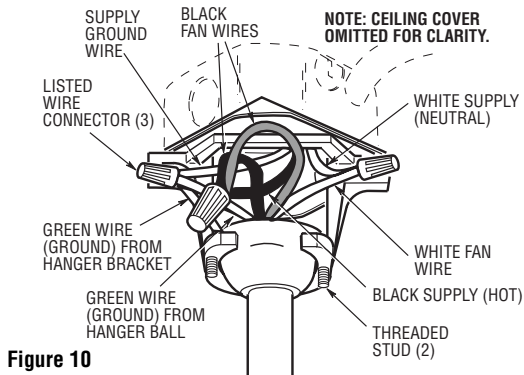
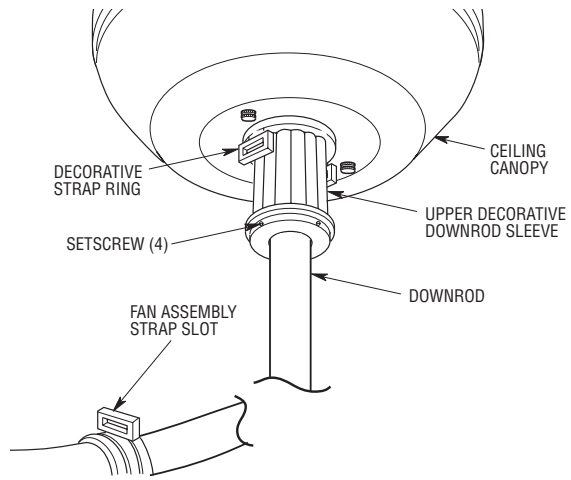

Figure 10
Figure 15
1. Connect the green grounding lead from the hanger ball and the green grounding lead from the hanger bracket to the grounding conductor of supply (this may be a bare wire or wire with green colored insulation). Securely connect wires with wire connectors supplied. (Figure 10.)
2. Securely connect the fan motor white wire to the supply white (neutral) wire using wire connector supplied (Figure 10). Securely connect the fan motor black wire to the supply black (hot) wire using wire connector supplied (Figure 15). The blue wire is for optional light kit accessory. Do not connect the blue wire to the supply black wire. Cap the blue wire with a wire connector supplied. After connections have been made, turn leads upward and carefully push leads into the outlet box, with the white and green leads on one side of the outlet box and the black and blue leads on the other side of the outlet box.
- 1. Loosen the setscrew on the upper decorative downrod sleeve and gently slide it up toward the ceiling canopy (Figure 15).
- 2. Position the top of the decorative strap ring approximately 1/4" below the knurled nuts on the canopy cover. The strap ring must not make contact with the knurled nuts to allow the fan to freely pivot on the hanger ball. Align the support strap ring so that the slots are in the same position as the slots of the strap supports on the fan assembly below (Figure 15).
- 3. Tighten the four setscrews in the upper decorative downrod sleeve to secure the decorative strap ring and upper decorative downrod sleeve to the downrod (Figure 15).